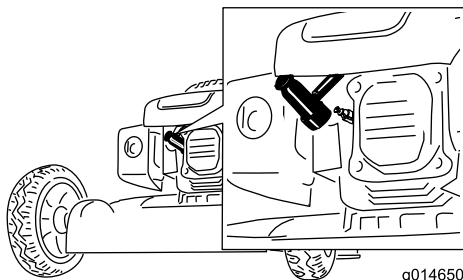

Figure 17
- Disconnect the spark-plug wire from the spark plug (Figure 17) before performing any maintenance procedure.